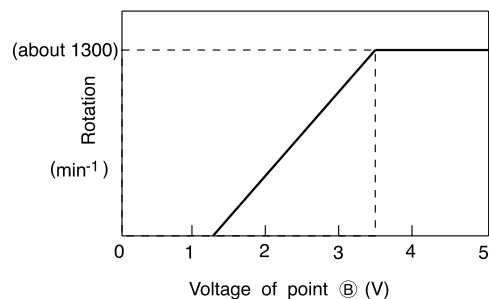

Fig. 6-3
- This pulse changes to analog voltage by R751 and C751 and it is applied to the fan motor as instruction voltage number of rotations. The relationship between the voltage of point B and number of rotations becomes as shown in Fig.6-3. (The gap may arise depending on the condition of unit.)